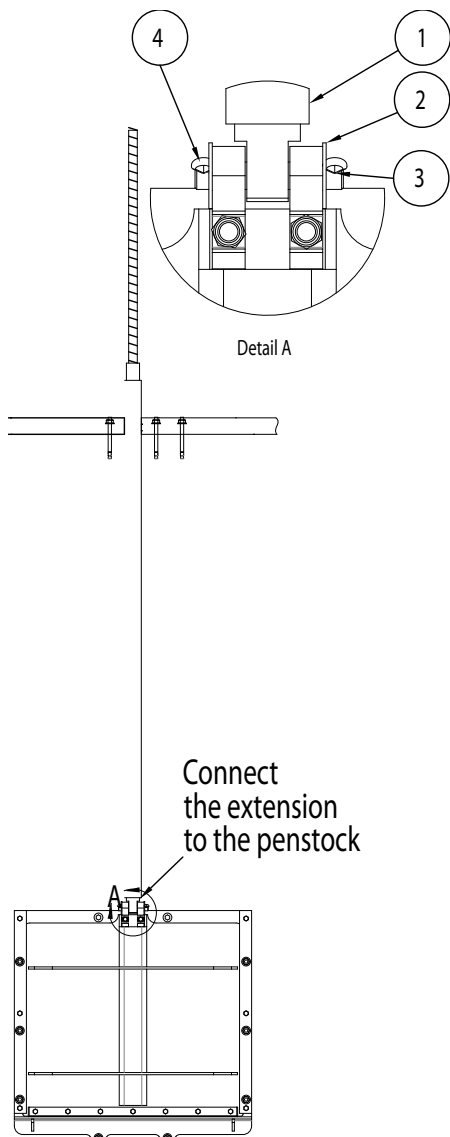

Figure 6
1. Connect the stem extension to the penstock (Figure 6 and Detail A). Connect the stem extension (item 1) using the pin (item 4). In order to be able to do so, the washer (item 2) and the cotter-pin (item 3) shall be removed and re-installed.